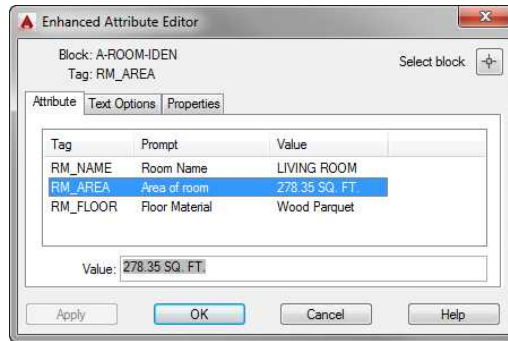

FIGURE 9.32: Select the RM_AREA row in the Enhanced Attribute Editor.
3. Double-click the new attribute to open the Enhanced Attribute Editor dialog box, and select the RM_AREA row, as shown in Figure 9.32.